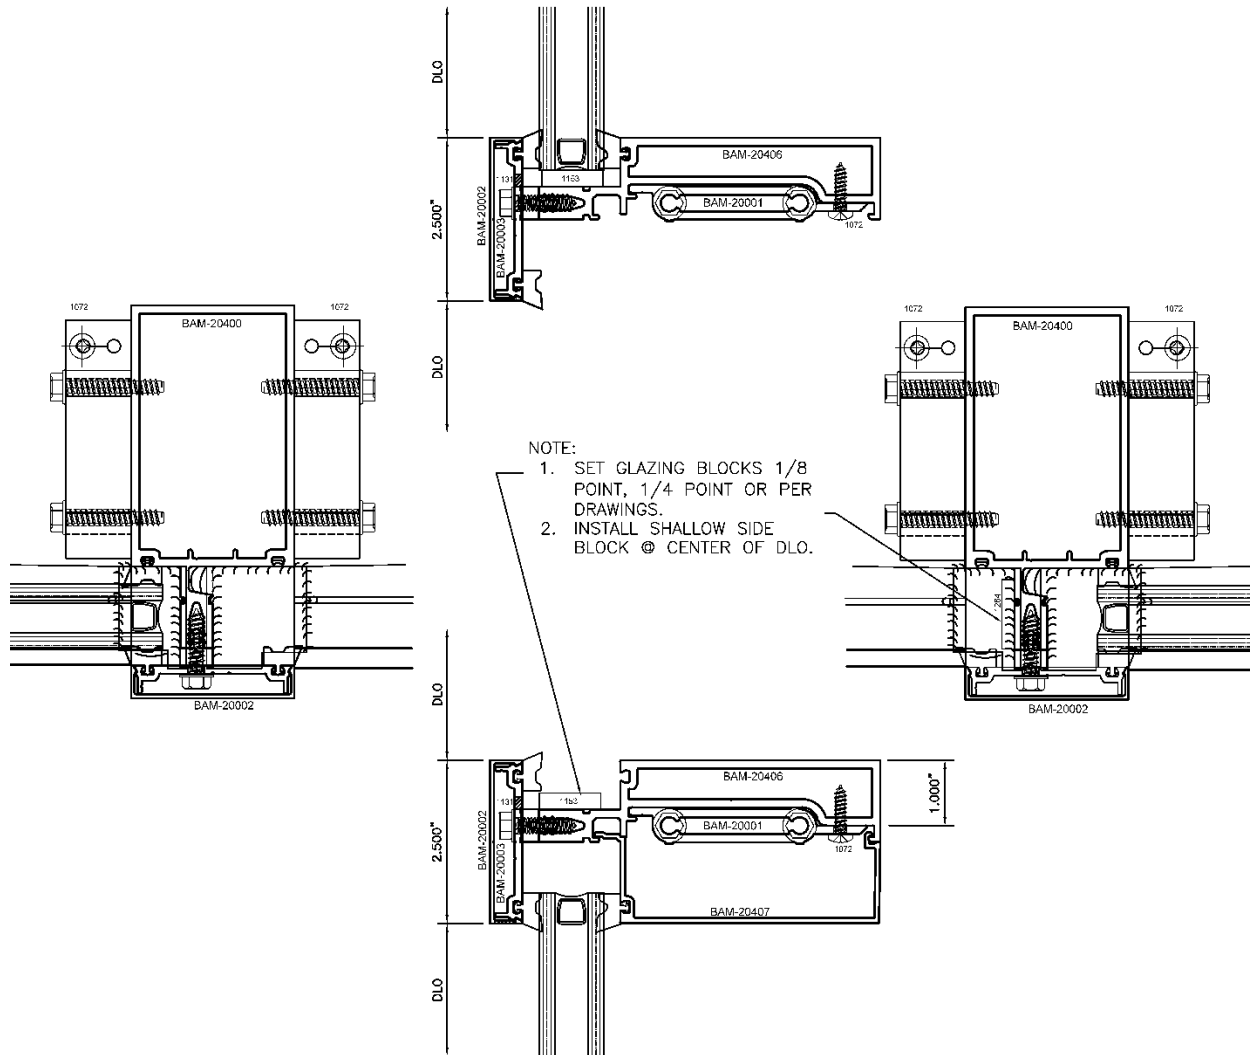

FIGURE Y.1
- Set glazing blocks @ 1/8th point or 1/4 point, unless drawings indicate other requirements as per application. (FIGURE Y.1)